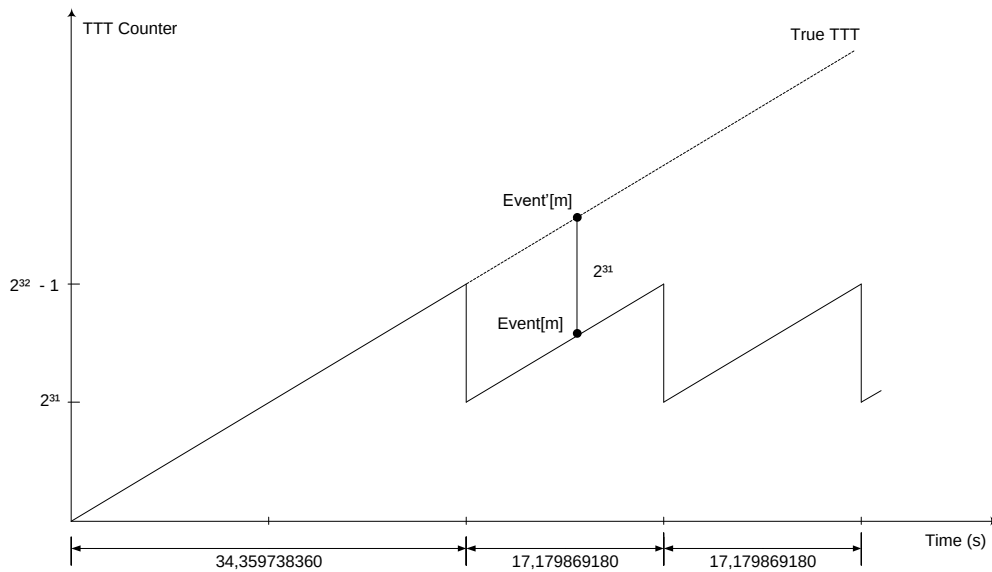
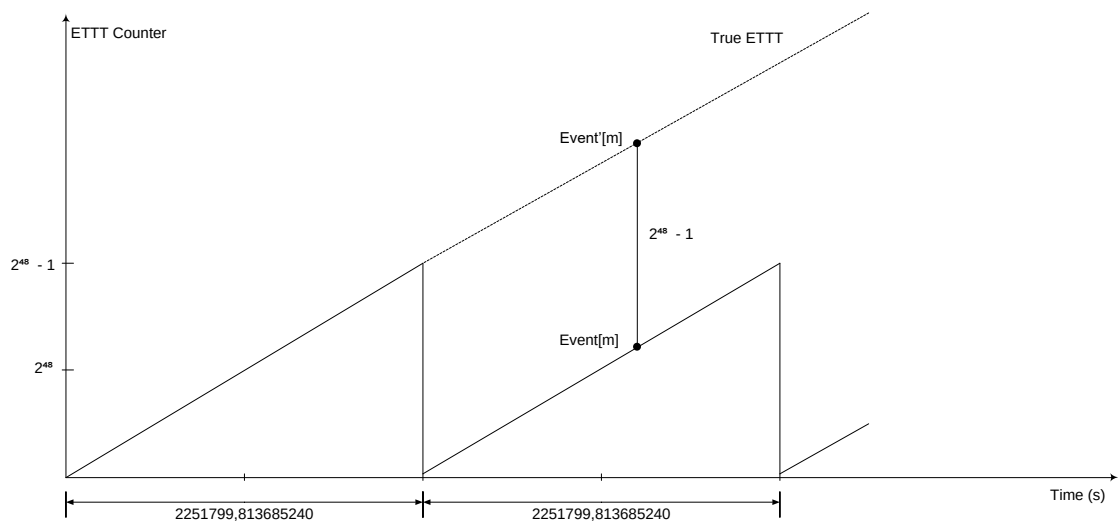

Fig. 9.4: TTT description.
Fig. 9.5: ETTT description.
- TRIGGER TIME TAG** (bits[31:0] of 4th header word) is the 31-bit Trigger Time Tag (TTT) information (31 bit counter and 32nd bit as roll-over flag), which is the trigger time reference. The word is composed of the value of the 31-bit counter of the Trigger Time Tag (bit[30:0]) plus the overflow bit (bit[31]) indicating that the timestamp counter has overflowed at least once (**Fig. 9.4**). If the ETTT option is enabled, then this field becomes the 32 less significant bits of the 48-bit Extended Trigger Time Tag information in addition to the 16 bits (MSB) of the TRG OPTIONS field (2nd event word). Note that, in the ETTT case, the roll-over flag is no more provided (**Fig. 9.5**). The trigger time tag is reset either at the start of acquisition, or via front panel signal on S-IN or LVDS I/O connectors, and increments with 125 MHz frequency (i.e. every 8 ns, that is $\frac{1}{2}$ ADC clock cycle). The TTT value is read at half this frequency (i.e. 62.5 MHz) so that the specifications are 16 ns resolution and 17 s range ($8 \text{ ns} \times (2^{31} - 1)$), which can be extended to 625 h ($8 \text{ ns} \times (2^{48} - 1)$) if ETTT is enabled.